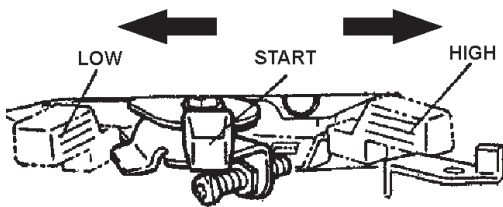

Figure 8. Throttle Lever (Start)
2. Move the **throttle lever** (Figure 8) away from the slow position, about 1/3 of the way toward the fast position.